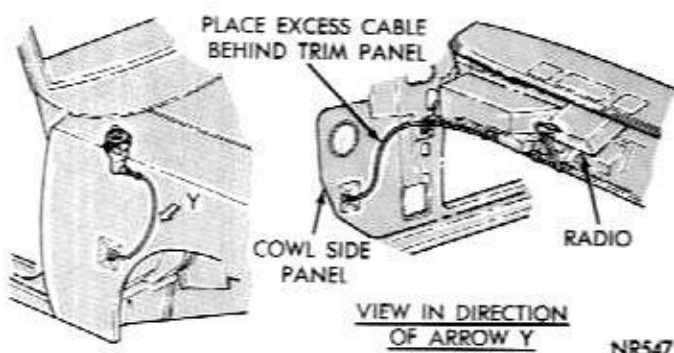

Fig. 7—Antenna Cable Routing
- (4) Install antenna mast into antenna body until sleeve bottoms on antenna body.
- (5) Reroute antenna lead through cowl side panel and over top of glove box to radio receiver (Fig. 7).